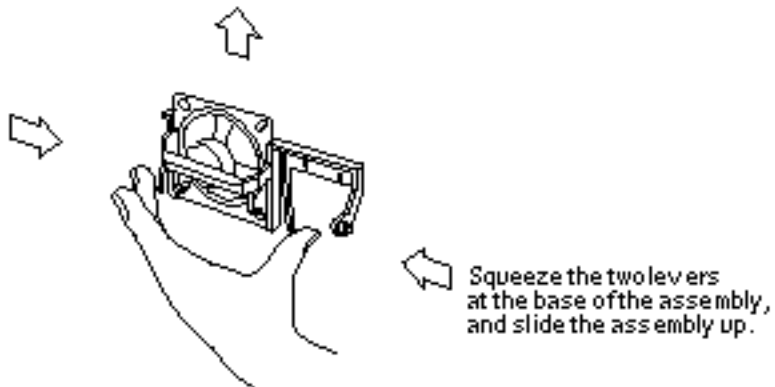

Figure 11-16 Raising the Speaker/LED Assembly
- b. **Raise the speaker assembly to allow removal of the main logic board (see Figure 11-16).**